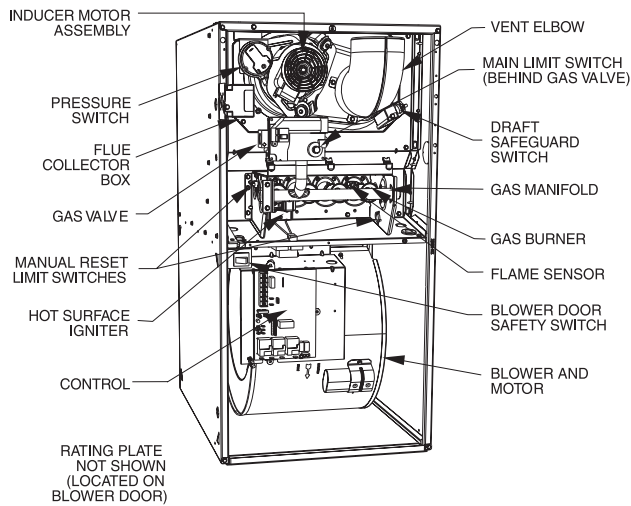

Fig. 2 - Component Location
**NOTE:** See Fig. 2 for component location in UPFLOW orientation. Reorient component arrangement when furnace is installed in other positions.
8. Swing out manifold from burners then pull manifold out of right side of burner box. (See Fig. 2)